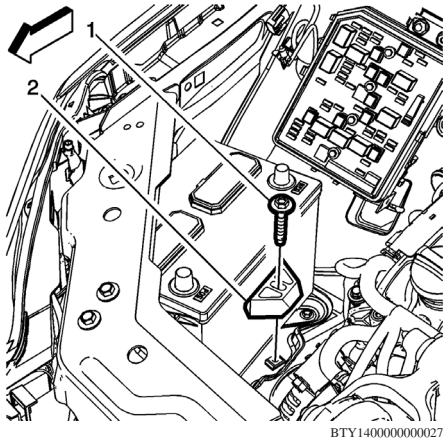

Fig. 6 Battery hold down retainer removal
11. Remove battery hold down fastener (1) and hold down retainer (2), **Fig. 6**.
3. Install battery hold down retainer (2) and **torque** fastener (1) to 13 ft. lbs., **Fig. 6**.